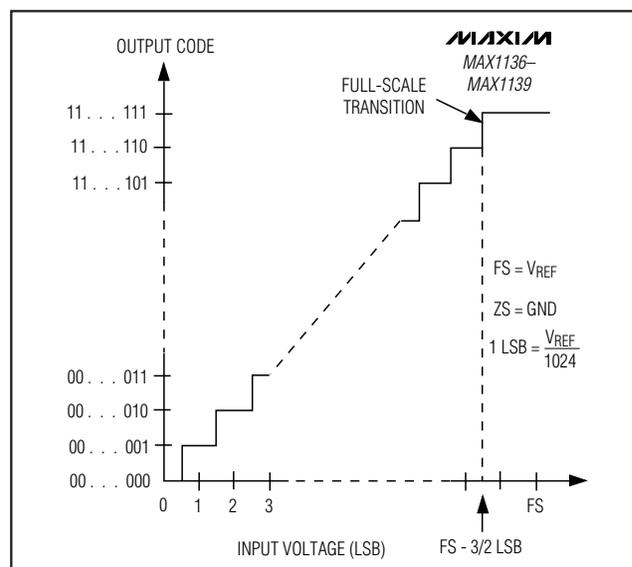
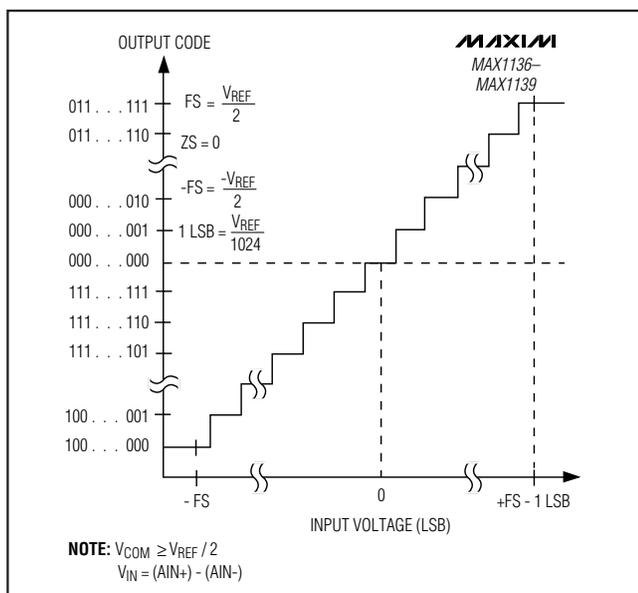

Figure 12. Unipolar Transfer Function
Figure 13. Bipolar Transfer Function
Output data coding for the MAX1136-MAX1139 is binary in unipolar mode and two's complement in bipolar mode with 1 LSB = (V_{REF}/2N) where 'N' is the number of bits (10). Code transitions occur halfway between successive-integer LSB values. Figure 12 and Figure 13 show the input/output (I/O) transfer functions for unipolar and bipolar operations, respectively.